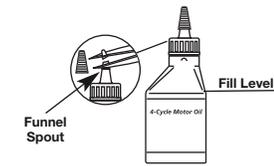

Fig. 6
Your unit is supplied with one 2.2 fl.oz. (60 ml.) bottle of SAE 30 SF, SG, SH oil (Fig. 6).
1. Unscrew the top of the bottle of oil and remove the paper seal covering the opening. Replace the top. Next, cut the tip off the funnel spout (Fig. 6).
2. Press and hold the On/Off Control switch in the **OFF (O)** position until the unit comes to a complete stop (Fig. 6).